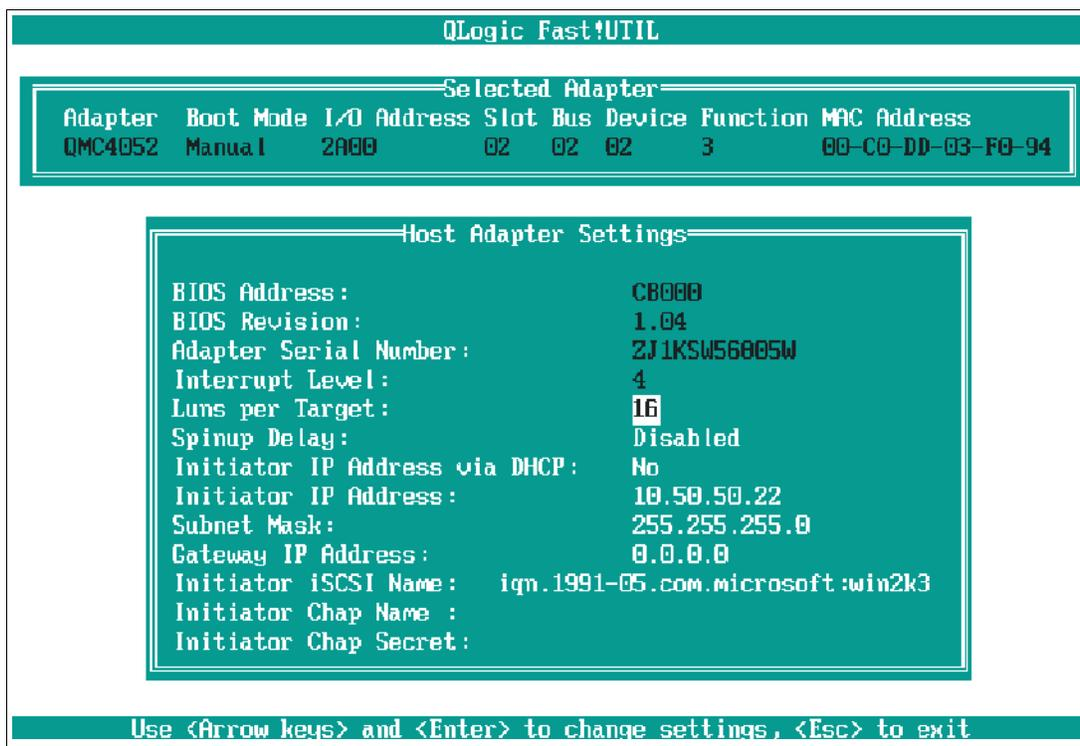

Figure 2-31 Host Adapter Settings window
- ii. Select **Configuration Settings** → **Host Adapter Settings**. Configure the IP address on QMC4052, as shown in Figure 2-31.